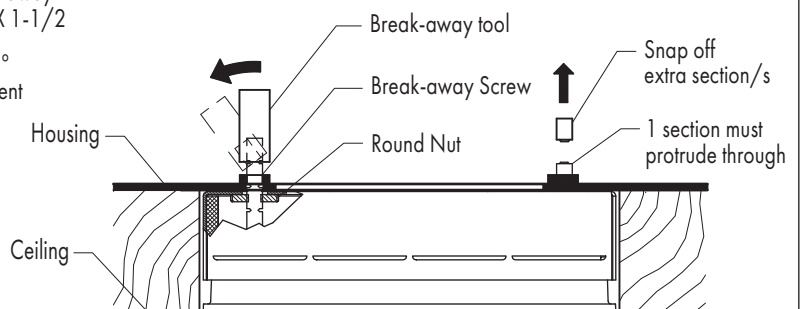

FIG 4.3 Fine adjust Trim Kit height & Break-away Screw height after installation
STEP 7 After completing height adjustment, break off Break-away Screw sections as needed to avoid interference with A & B lamping modules-FIG 4.3.
**Adjustment Notes:** Adjust each screw until Trim is level with ceiling & secure Trim position by hand tightening Round Nuts against Light Shield-FIG 4.3.
Slots in Trim screw bosses permit 6 deg of adjustment for aligning Trim Kit with ceiling opening, walls & other fixtures-FIG 4.3.